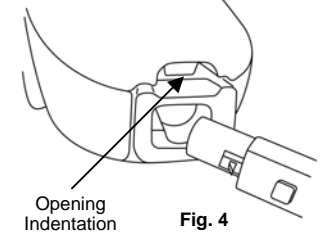

Fig. 4
1. Remove the flexible hose from the air intake duct by pressing on the hose release button and pulling out. Place your fingers in the opening indentation and lift the front cover up. (Fig. 4)